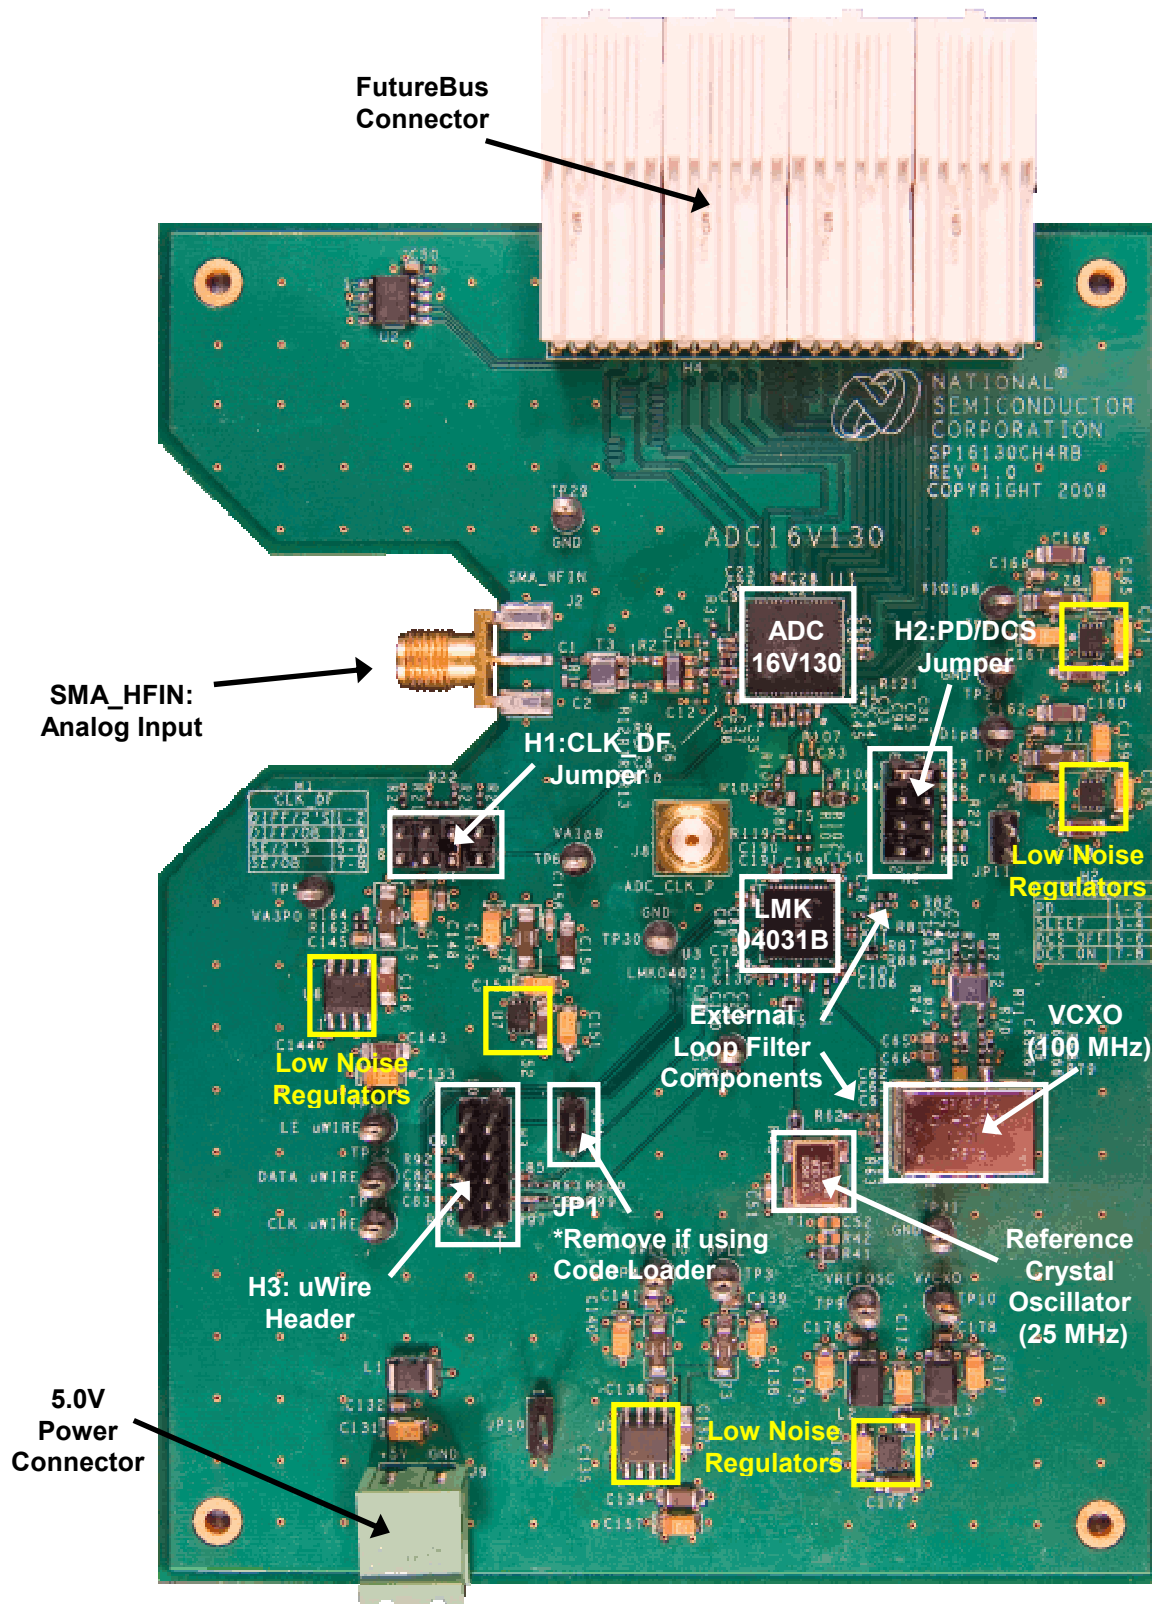
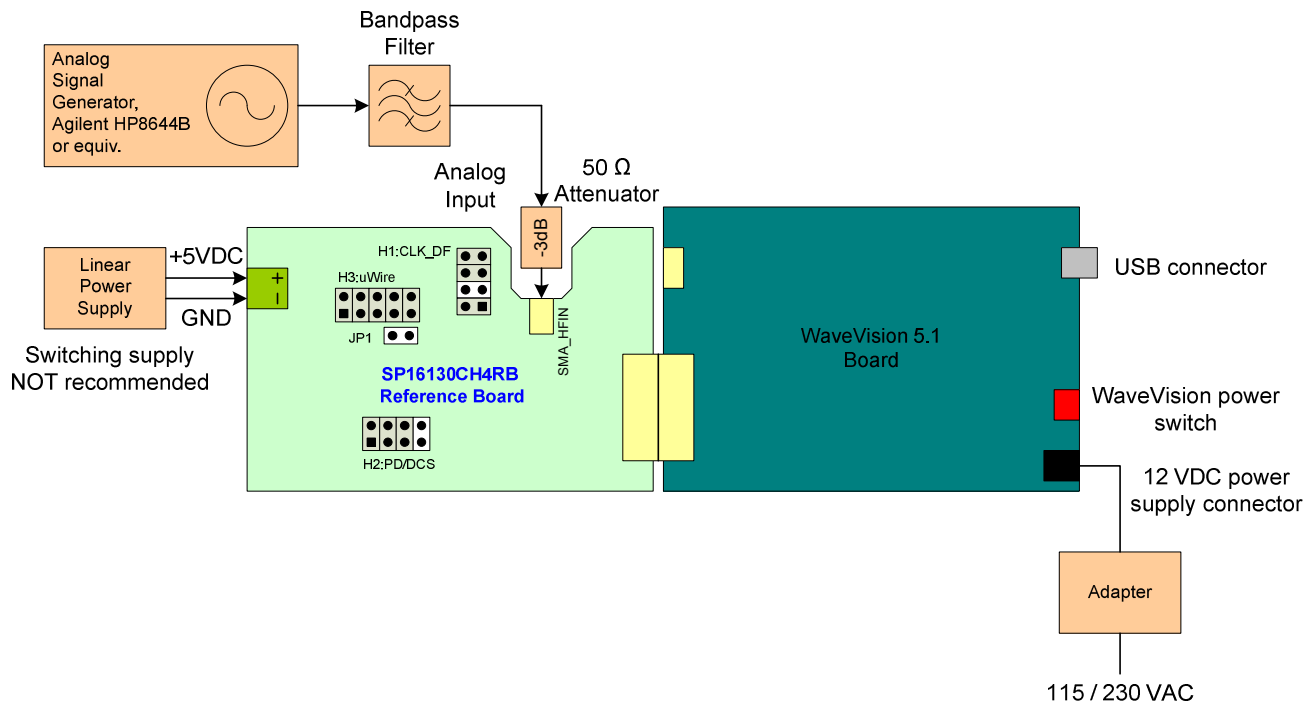

Figure 1: SP16130CH4RB Component, Connector and Jumper Locations
Figure 3: Connection Diagram for SP16130CH4RB and WaveVision 5.1 Data Capture Hardware
- 2. Connect the WaveVision 5.1 Digital Interface Board to your PC through the supplied USB cable and apply power to the WaveVision 5.1 board through the +12V AC-DC power adapter included in the WaveVision 5.1 hardware kit. The connection diagram is shown in Figure 3.
The SP16130CH4RB board jumpers should be configured as follows. Please refer to Figure 1 for the exact jumper locations.
- Connect the SP16130CH4RB reference board to the WaveVision 5.1 board through the FutureBus connector as shown in Figure 3. The SP16130CH4RB reference board should not be powered up, as the WaveVision hardware does not support hot-swapping of boards.
- Connect a 5.0V power supply capable of supplying up to 1A to the green, 2-terminal power connector located along the side edge of the SP16130CH4RB board. This is shown in Figure 3. Ensure that the polarity of the wires going to the green power connector match the "+5V" and "GND" labels on the evaluation board. Turn on the 5V supply.
- Connect the signal source to the "INP" SMA connector as shown in Figure 1. The recommended signal generators are the HP8644B (HP/Agilent) or the SMA100A (Rohde & Schwarz). A bandpass filter between the signal generator output and the SP16130CH4RB SMA connector is required to measure the true performance of the board. See Figure 3.
signal generator must be filtered to suppress the harmonic distortion and noise produced by the signal generator and to allow accurate measurement of the ADC's distortion performance. A tunable bandpass filter made by Trilithic (Indianapolis, IN) is recommended. Using only a lowpass filter is not recommended as the SNR performance is significantly degraded by the broad-band signal generator noise in the passband. See *Figure 3*.